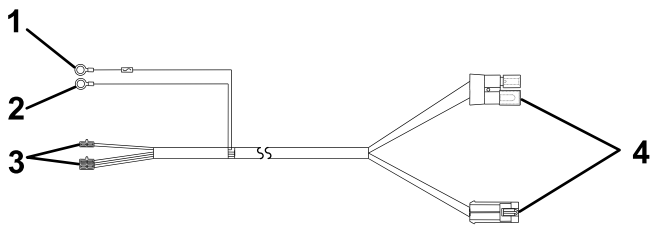

Figure 3
1. Secure the spreader end of the vehicle wire harness (Figure 3) to the center of the rear vehicle bumper with a cable tie.
4. Connect the black ring connector to the negative (-) battery terminal (Figure 3).
5. Connect the red ring connector to the positive (+) battery terminal (Figure 3).